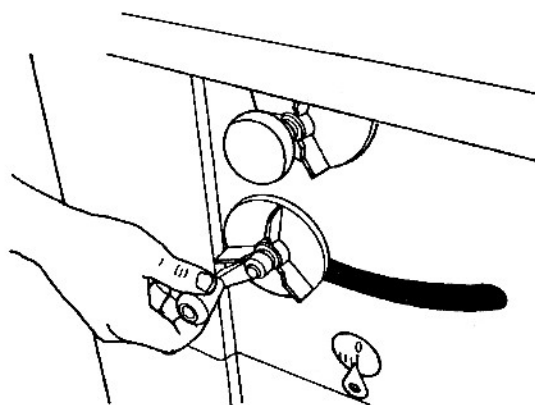

Fig. D-11
6. Turn the blade height adjustment handle to set the blade at the proper depth of cut, as seen in Fig. D-11. (There is no "blade height lock". The blade remains at the same height unless you turn the height handle.) Always adjust the blade height to be a maximum 1/4" above the workpiece.